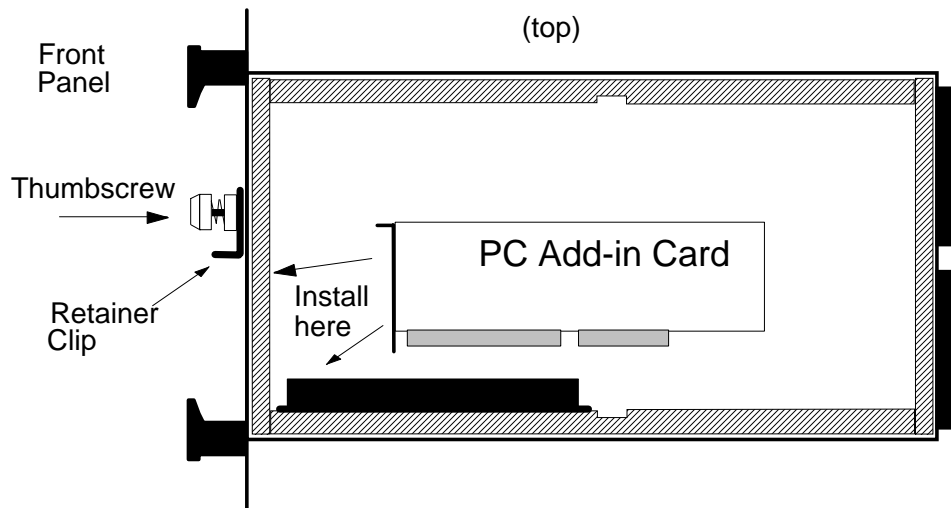

Figure C-3. Inserting the PC Add-In Card.
- Loosen the front-panel thumb screw shown in Figure C-3 below. Slide the retainer clip up (toward the top of the EPC7-AM) as far as it will go.
- Position the add-in card inside the EPC7-AM as shown in Figure C-3 above. Slide the add-in card toward the front panel until the metal end-panel of the add-in card is past the card-edge connector. Then move the add-in card down and slide it forward again to allow the flange on the top of the metal end-plate to pass through the slot in the front of the EPC7-AM as shown in Figure C-3.